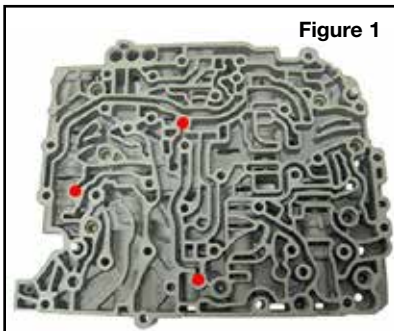

Figure 1
- d. Install checkballs in locations indicated in by the circles (**Figure 1**).